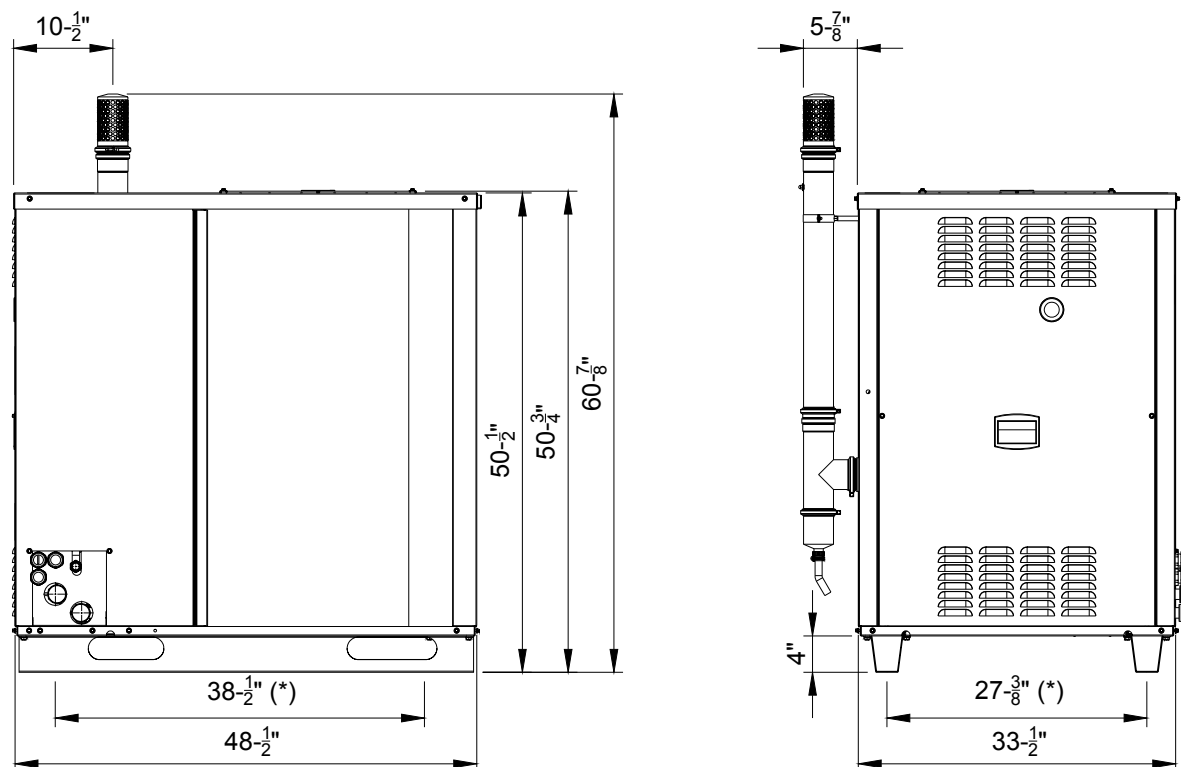

Figure 3 – GAHP-AR external dimensions.
(2) UNITS ARE FACTORY-WIRED FOR 208-230 VOLTS OPERATION.
(3) MAY VARY BY $\pm 10\%$ AS A FUNCTION OF BOTH POWER SUPPLY AND ELECTRICAL MOTOR INPUT TOLERANCE.
(4) REFERRED TO A SOLUTION OF QUALITY TAP WATER AND 10% BY VOLUME OF INHIBITED PERMANENT ANTIFREEZE. HIGHER ANTIFREEZE CONCENTRATIONS MAY BE REQUIRED IN CERTAIN APPLICATIONS. MONO-ETHYLENE GLYCOL CAUSES CORROSION PHENOMENON IN GALVANIZED METAL PIPES.
(5) FOR GASES DUCT DIMENSIONS SEE FIGURE 3, PAGE 14.